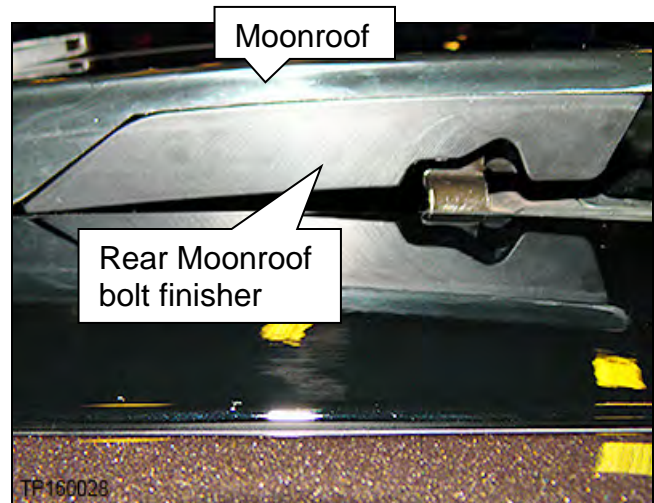

Figure 51
7. Remove the left rear and/or right rear Moonroof bolt finishers (Figure 51).